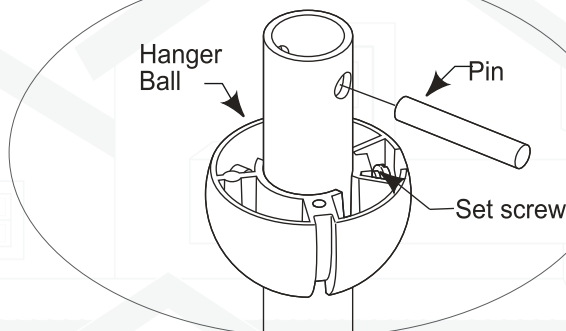

Figure 5
7. Loosen two set screws on the downrod support and then place the downrod into the downrod support. (Figure 5). Thread the electrical wires and the earth wire through the downrod. Align the Clevis Pin holes in the Downrod with the holes in the Downrod Support. Be sure to push the straight leg of the Hairpin Clip through the hole near the end of the Clevis Pin until the curved portion of the Hairpin snaps around the Clevis Pin. Finally, re-tighten the two set screws.